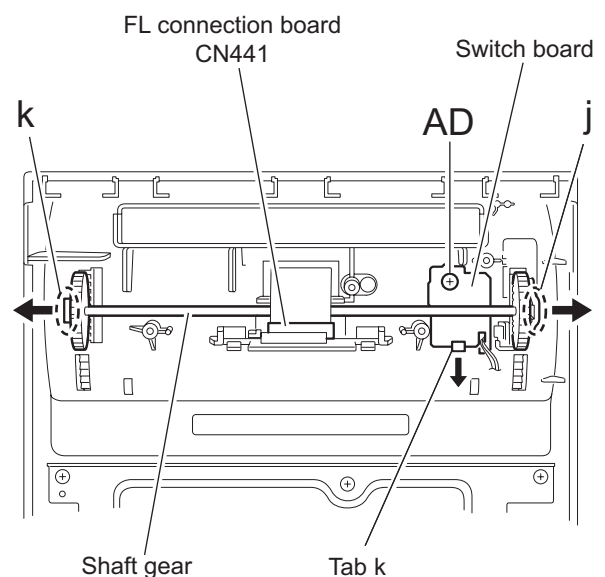

Fig.42
2.2.7 Removing the switch board. (See Fig.42)
- Prior to performing the following procedure, remove the bracket (2) / drive motor assembly.